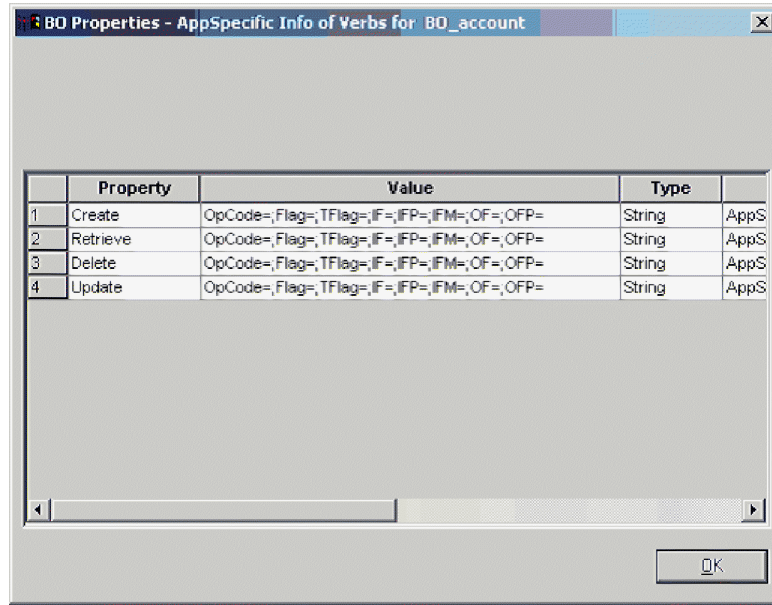

Figure 23. Application-specific information for verbs
- The verbs specified in the BO Properties window (Figure 23)
PortalODA generates the verbs specified in the BO Properties window (as illustrated in Figure 23 on page 61). It creates an AppSpecificInfo property for each verb but does not populate it.